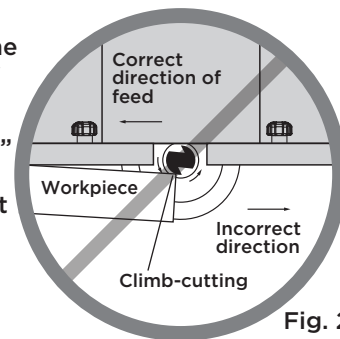

Fig. 2
- It will cause climb-cutting where the workpiece can "climb" off the tabletop in the direction of the bit rotation, pulling the workpiece and possibly your hands into the rotating bit (Fig. 2).